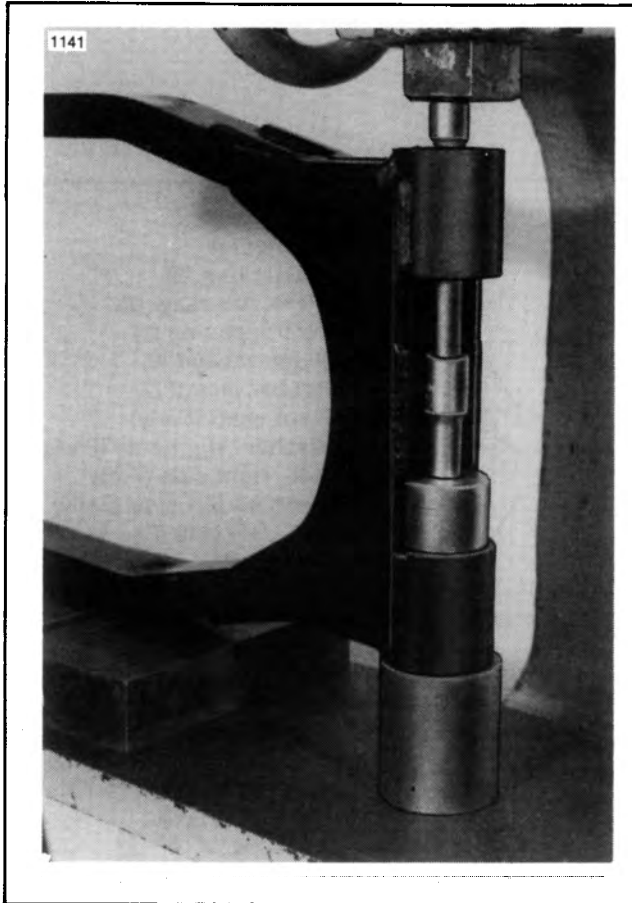

Figure 2-79. Pressing Out Clevebloc
2. See Figure 2-79. Place the swing arm in an arbor or hydraulic press. Place the PRESS COLLAR, from the SWING ARM ASSEMBLY TOOL, Part No. HD-96200-80, on the outside diameter of the swing arm as shown.